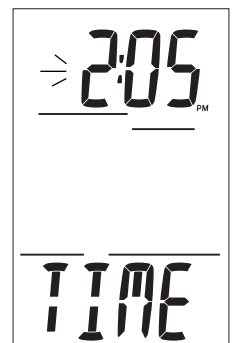
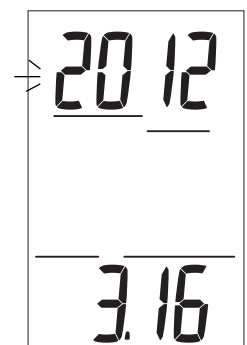

Fig. 39 - Set TIME
Fig. 40 - Set DATE
**Set Time**, information includes (Fig. 39):
- A (hold) to scroll upward through Hour set points at a rate of 8 per second from 12: (AM) to 11: (PM), or 0: to 23: if 24 Hour Format, in increments of 1: (hr).
**Set Date**, information includes (Fig. 40):